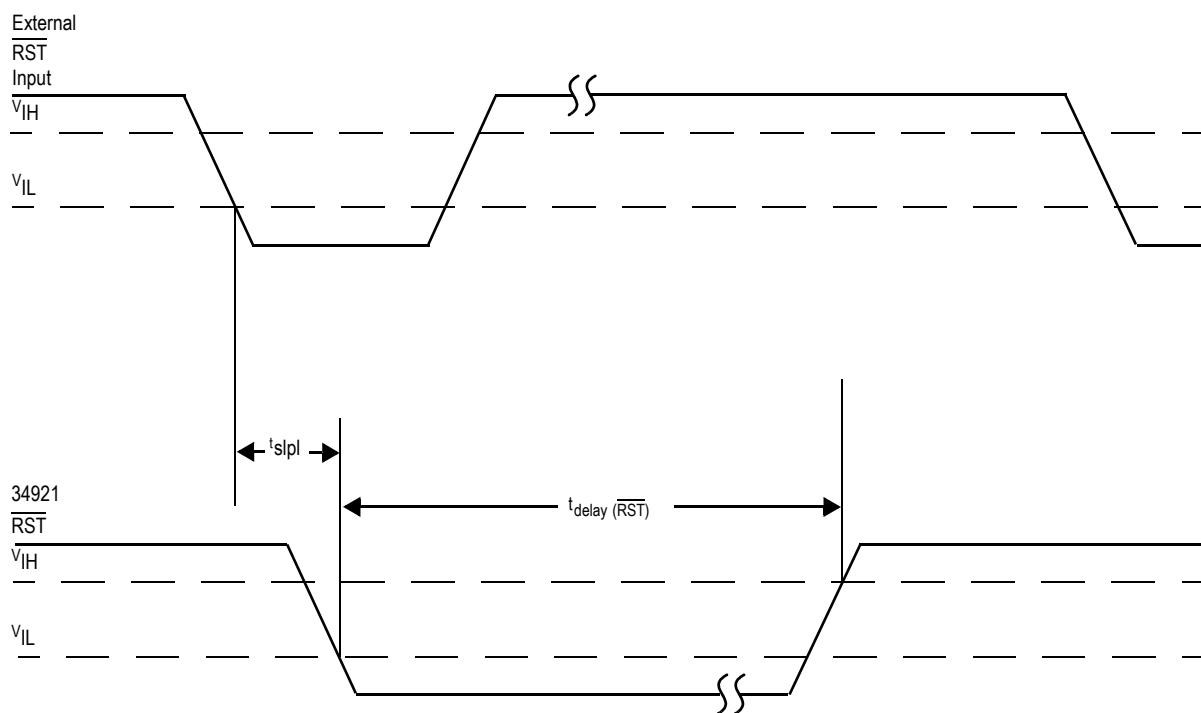

Figure 6. \overline{RST} Timing
25. See Figure 6. RST Timing, page 17.